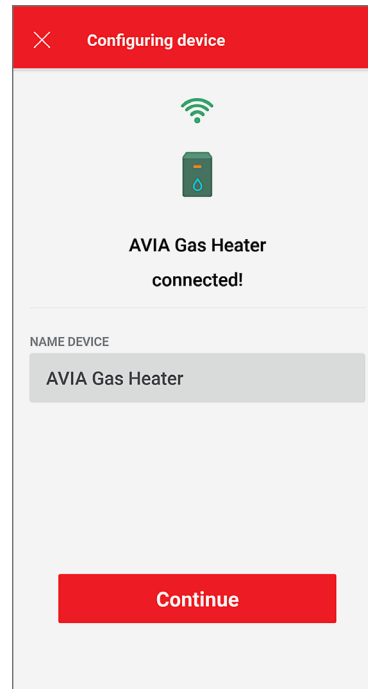

Figure 103. Device Name
1. Your device is now connected to Wi-Fi. You can change the name of your device here. See Figure 103.